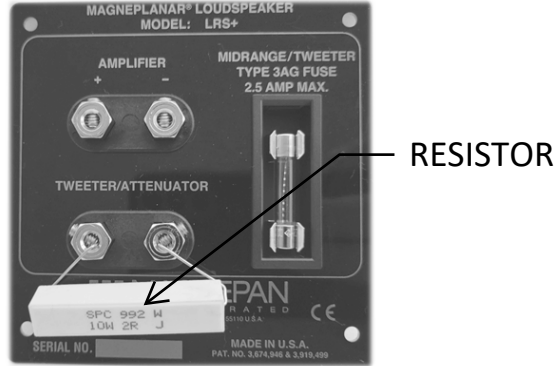

FIGURE 2
7. Tweeter attenuation-- The tweeter attenuator jumper provides maximum tweeter volume for heavily-damped rooms. Your room may require tweeter level reduction by inserting a resistor in place of the jumper. For more information regarding attenuation see Section 4. and Figure 2 on page 4.